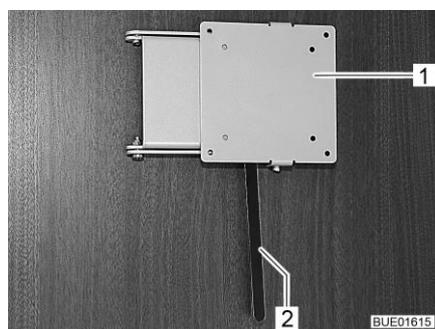

Fig. 111 Holder with release lever
- Push the release lever (Fig. 111,2) to the side and turn the holder (Fig. 111,1) with the flat screen to the desired position.
- Turn flat screen back until the holder (Fig. 111,1) engages in the lock.